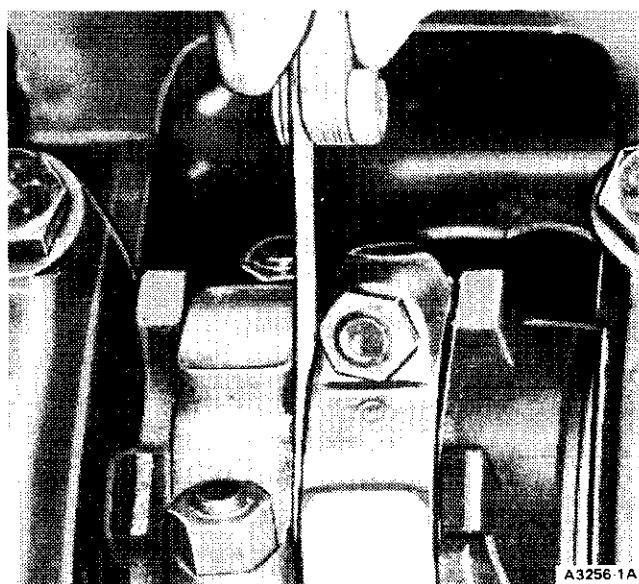

FIG. 32 Checking Connecting Rod Side Clearance
9. After the piston and connecting rod assemblies have been installed, check the side clearance between the connecting rods on each crankshaft journal (Fig. 32).
27. After the piston and connecting rod assemblies have been installed, check the side clearance between the connecting rods on each connecting rod crankshaft journal (Fig. 32).